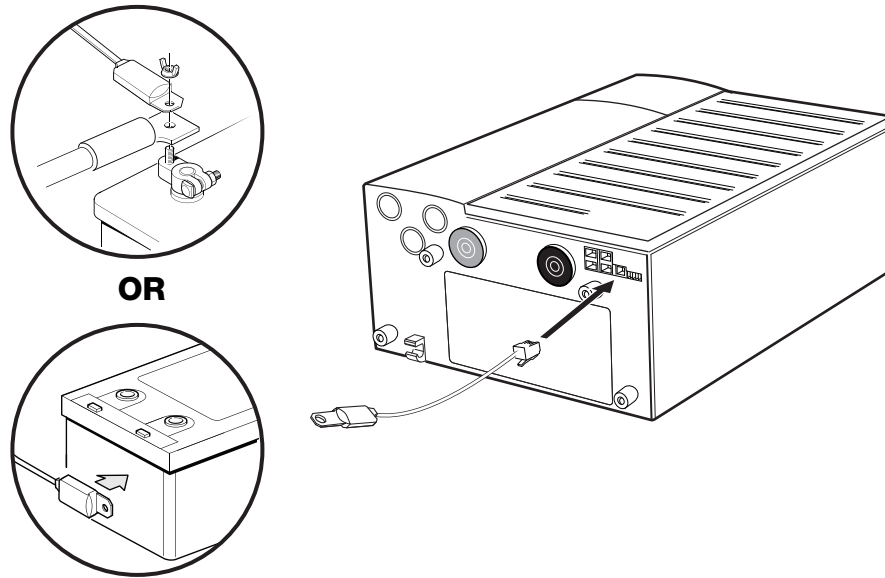

Figure 3-6 Battery Temperature Sensor Installation
2. Route the BTS cable to the battery enclosure, and then connect the BTS using one of the following methods (as shown in Figure 3-6 on page 3-13):